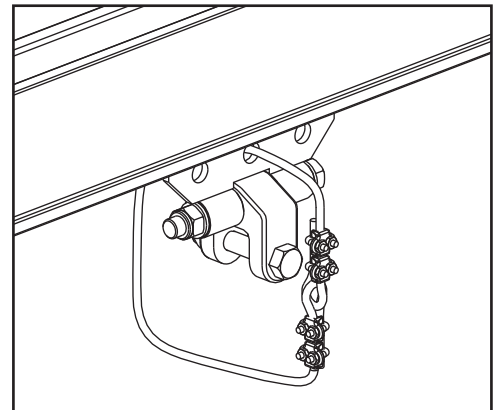

Figure 3-147
**Trolleys** (See Figure 3-147)